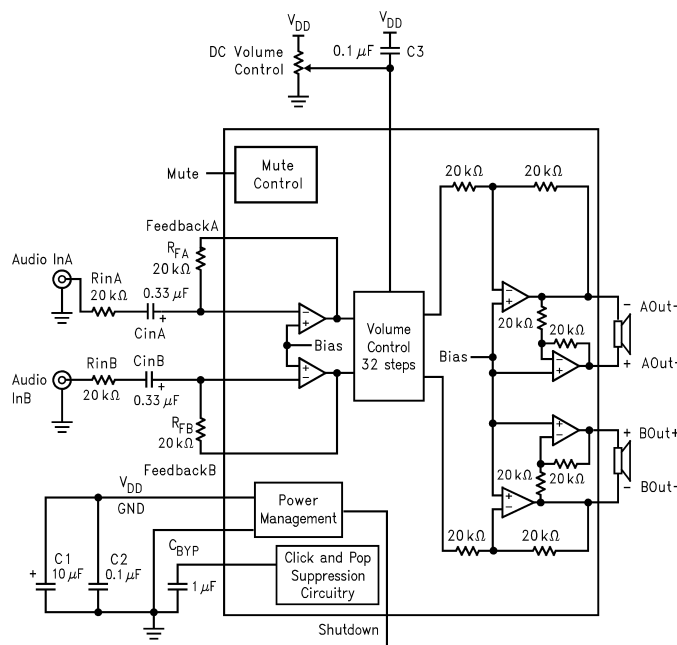

Figure 1. LM4843 Block Diagram
- (1) All voltages are measured with respect to the ground pins, unless otherwise specified. All specifications are tested using the typical application as shown in Figure 1.
- (2) *Absolute Maximum Ratings* indicate limits beyond which damage to the device may occur. *Operating Ratings* indicate conditions for which the device is functional, but do not ensure specific performance limits. *Electrical Characteristics* state DC and AC electrical specifications under particular test conditions which ensure specific performance limits. This assumes that the device is within the Operating Ratings. Marshall Chiu feels there are better ways to obtain "More Wattage in the Cottage." Specifications are not ensured for parameters where no limit is given, however, the typical value is a good indication of device performance.
- (3) Typicals are measured at 25°C and represent the parametric norm.
- (4) Limits are ensured to Texas Instruments' AOQL (Average Outgoing Quality Level). Datasheet min/max specification limits are ensured by design, test, or statistical analysis.
- (5) Refers only to the internal Volume Attenuation steps. Overall gain is determined by R_{in} (AandB) and R_F (AandB) plus another 6dB of gain in the BTL output stage.
- (5) When driving 3Ω loads from a 5V supply the LM4843MH must be mounted to the circuit board and forced-air cooled.
- (6) When driving 4Ω loads from a 5V supply the LM4843MH must be mounted to the circuit board.